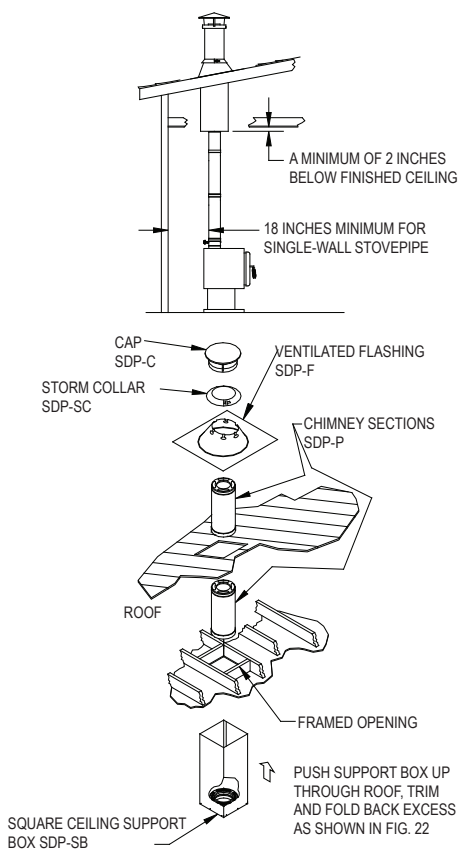

Figure 20
2. Cut Openings: Cut a roof opening directly above the appliances' flue outlet collar, just as in a Ceiling-Supported Installation (Steps 1 thru 5). If a separate ceiling and roof exists, as shown in **Figure 20**, (Low Attic), first cut and frame a ceiling opening as described in Ceiling-Supported Installations (Step 2). Refer to Table 2 for clearance and framing specifications. If it is desired to install through a cathedral ceiling (**Figure 21**), then the hole is cut in the roof.